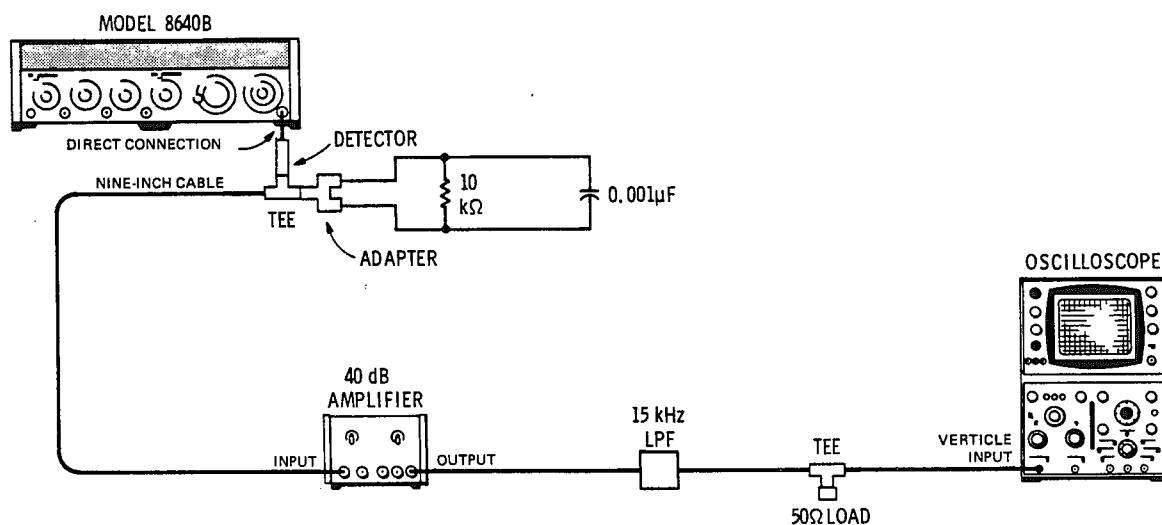

Figure 4-27. Incidental AM Test Setup
1. Connect equipment as shown in Figure 4-27 (with network, adapter, tee, and detector connected as shown) after setting Signal Generator's controls as follows: